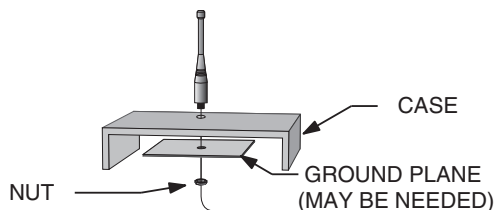

Figure 37: Remote Ground Plane
6. In some applications, it is advantageous to place the module and antenna away from the main equipment (Figure 37). This can avoid interference problems and allows the antenna to be oriented for optimum performance. Always use 50W coax, like RG-174, for the remote feed.